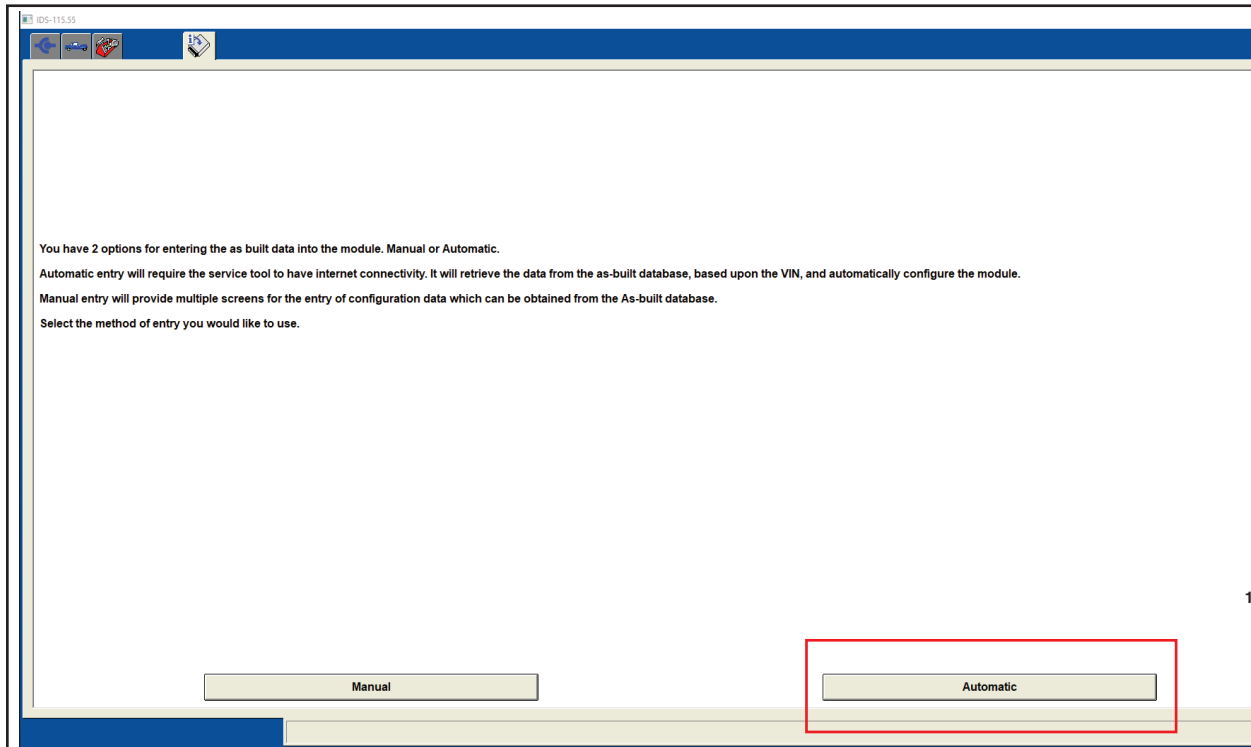

FIGURE 1C
- When prompted: You have 2 options for entering As-Built data into the module, Manual or Automatic. Select Automatic. See Figure 1C.